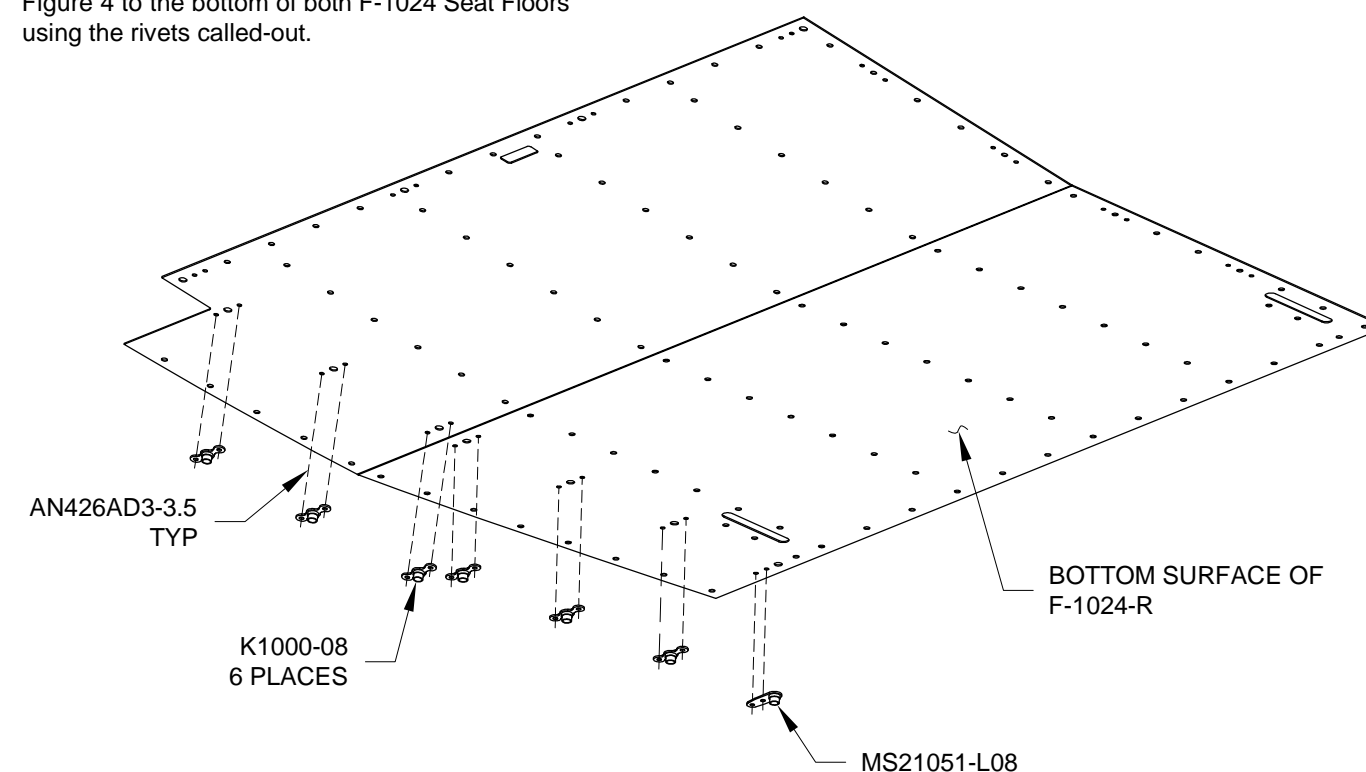

FIGURE 4: RIVETING NUTPLATES TO THE SEAT FLOORS
Step 11 (Standard Kit): Rivet the nutplates shown in Figure 4 to the bottom of both F-1024 Seat Floors using the rivets called-out.
Step 1: Rivet the two nutplates to the F-1031 Upper Baggage Door Seal Channel using the rivets called-out in Figure 4.